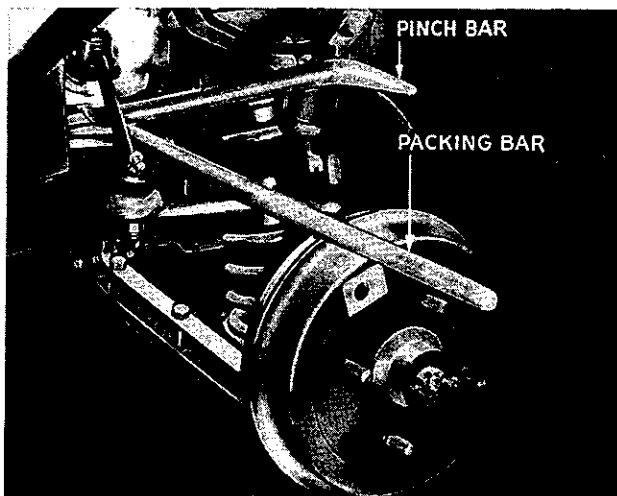

Fig. 10. Showing method of releasing ball pin from steering box drop arm
9. Having partially removed the tie rod end nut, a pinch bar suitably supported on the chassis may be used to prize the tapered end of ball pin out of the drop arm as shown in Fig. 10.